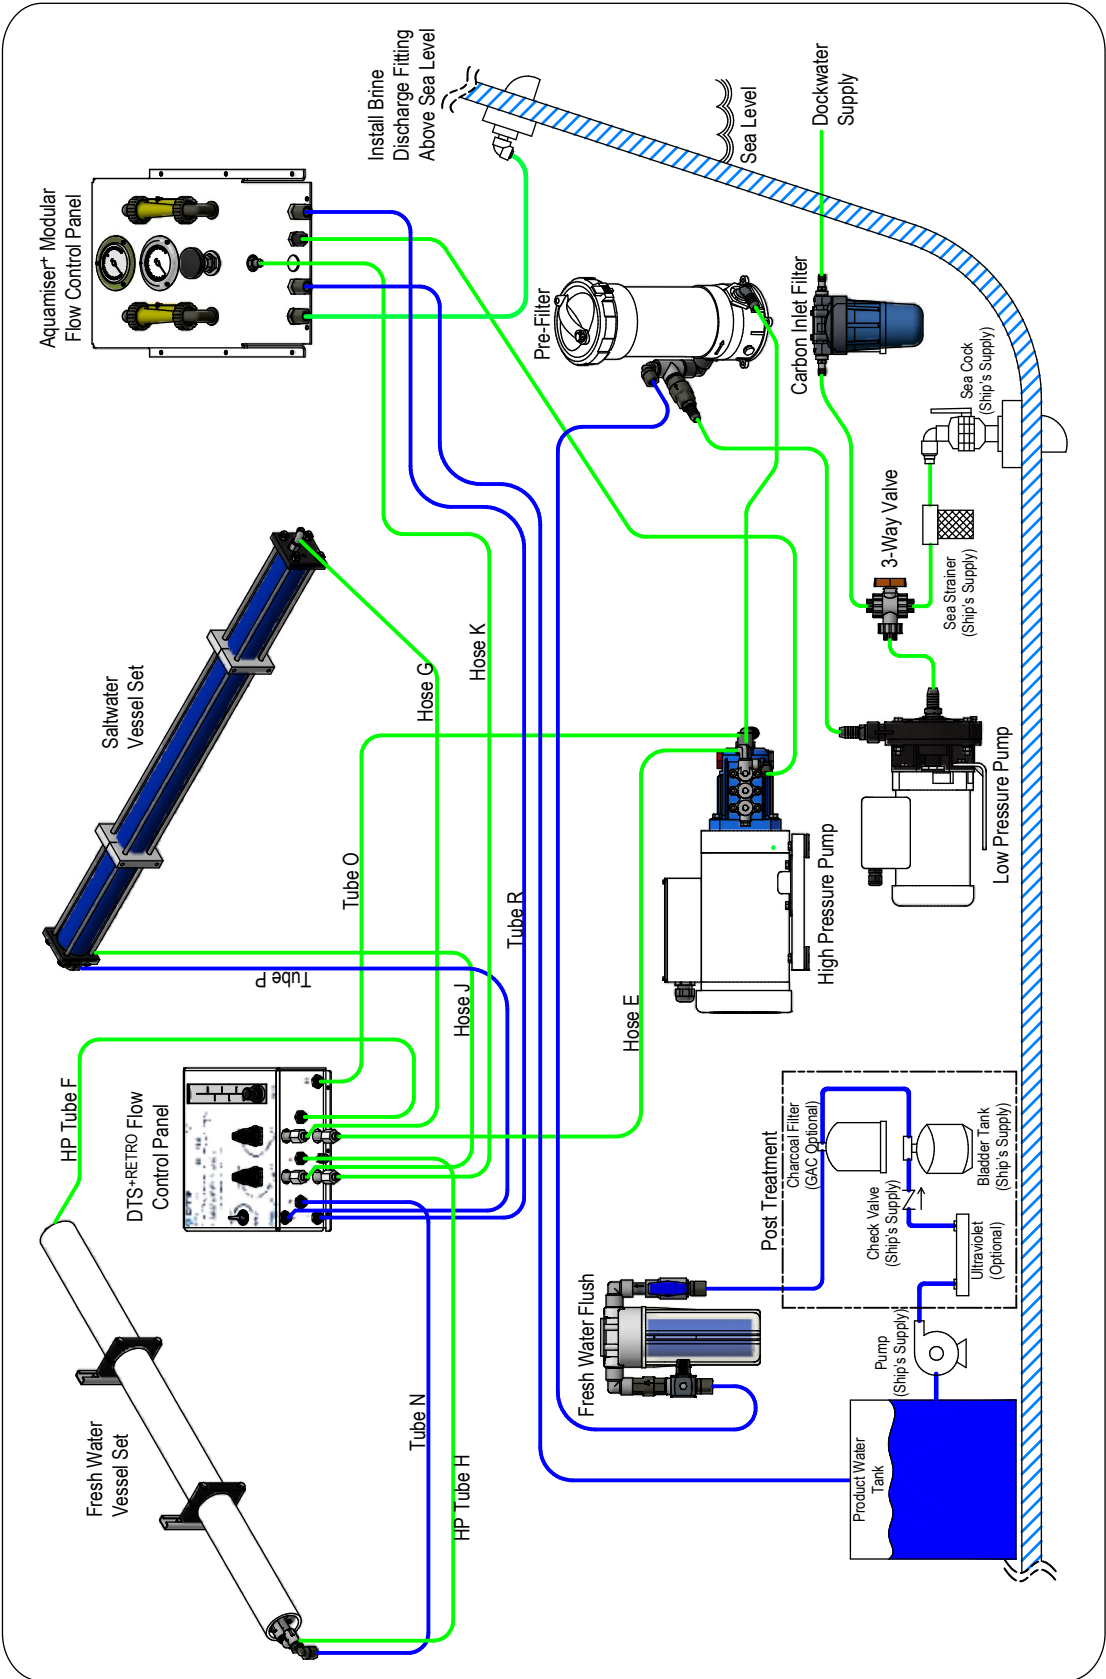

Figure 16: Aquamiser+ Modular 250-600 GPD with DTS+RETRO
- "Figure 16: Aquamiser+ Modular 250-600 GPD with DTS+RETRO" on page 38